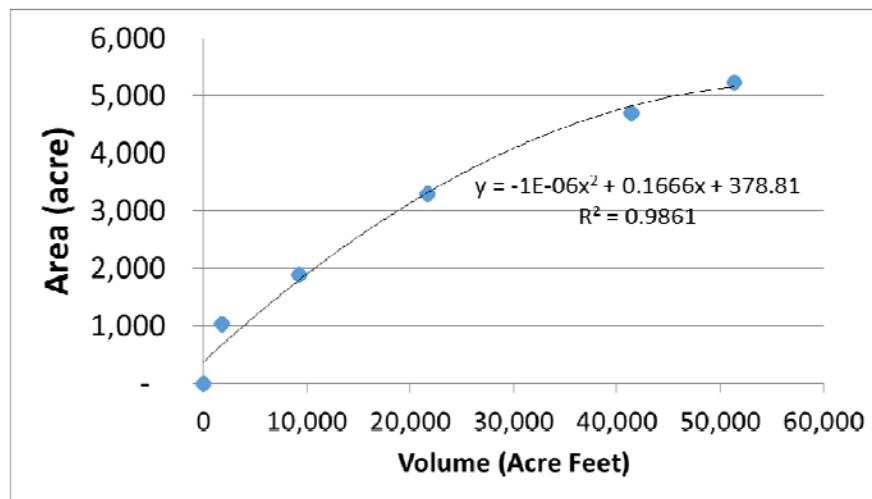

Figure 2. Above Cutler Reservoir Volume-Area Relationship
- iii.** A quadratic relationship for reservoir area vs storage is shown in Figure 2,